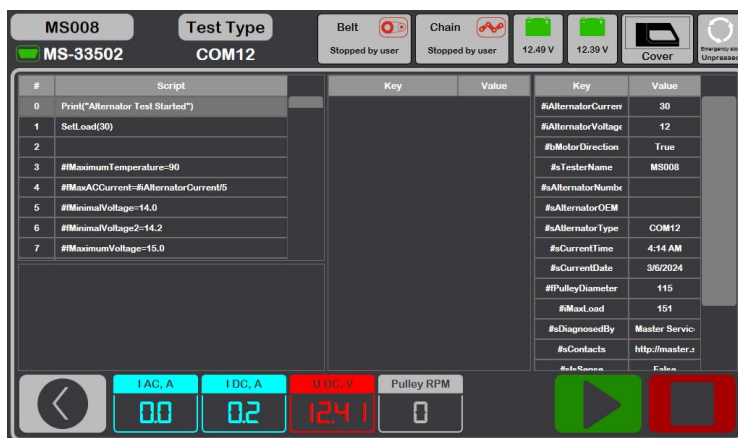

Figure 23. Menu of the automatic test mode
7.3. Gradually increase the load on the alternator using the load control buttons (see item 7 in Figure 23) while keeping the output voltage constant, and the alternating current value in the B+ circuit "I, AC" should not exceed 10% of the set load value (for example, at a load of 50 A, the "I, AC" value should not exceed 5 A). Also, there should be no significant peaks observed on the current oscillogram, the values should fluctuate within consistent limits.
5. To start the test, press the button  in the opened window (see Figure 23). Then, the bench will automatically perform all checks according to the selected script. If necessary, the test process can be interrupted by pressing the button .